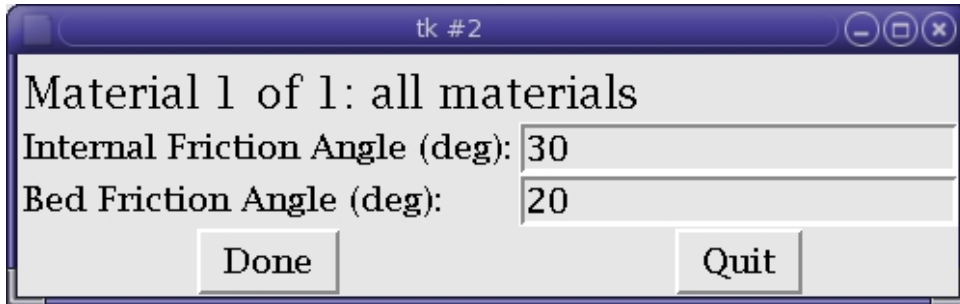

Figure 3.5: Pop-up window for entering friction angles
- The **Run** button produces the starting files found within the simulation directory. When this button is selected, a new window appears (figure 3.5), in which the user specifies the two friction angles (see section below). The **Quit** button exits from the GUI, while the **?** button opens a new window displaying help files for this particular GUI.
- The next two parameters, the **Internal Friction Angle** and the **Bed Friction Angle** set the resistive frictional forces that occur within a material being simulated and between that material and the basal surface. The *internal friction angle* corresponds to friction arising from particle-particle interactions within the flowing material and is equivalent to the natural slope of the free-surface that would form if a cylindrical pile of the granular material were placed on a flat plane and allowed to collapse under its own weight. The *bed friction angle* corresponds to the friction that develops due to particle-ground interactions. This value is equivalent to the minimum slope that an inclined surface must obtain before the material placed on it begins to slide from its static position. Enter the appropriate values into the pop-up window that appears (see figure 3.5). When finished, click on “done” then “quit”.